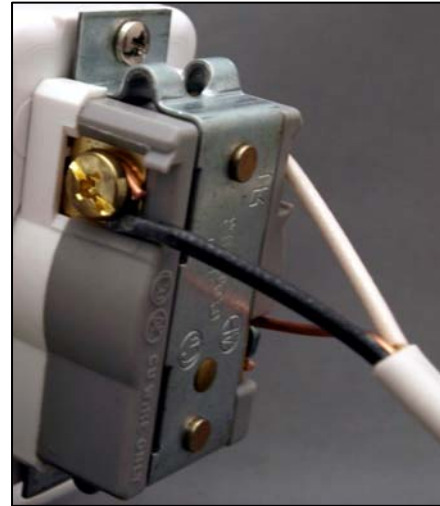

Figure 3
4. Connect the electrical wires to the back of the receptacle on the Recessed Cable Plate (RCP) with Recessed Power Outlet. Connect the hot line (black) wire to the brass colored terminal or screw and the neutral (white) wire to the silver colored terminal or screw. Be sure to connect the grounding (green) or bare grounding wire to the green colored terminal screw (see Figure 3).
4. Switch the appropriate circuit breaker OFF or remove fuse(s) before wiring. Run a source of power to this workbox. Connect hot line (black) wire to brass colored terminal or screw and neutral (white) wire to silver colored terminal or screw. Be sure to connect grounding (green) or bare grounding wire to green colored terminal screw (see Figure 3).